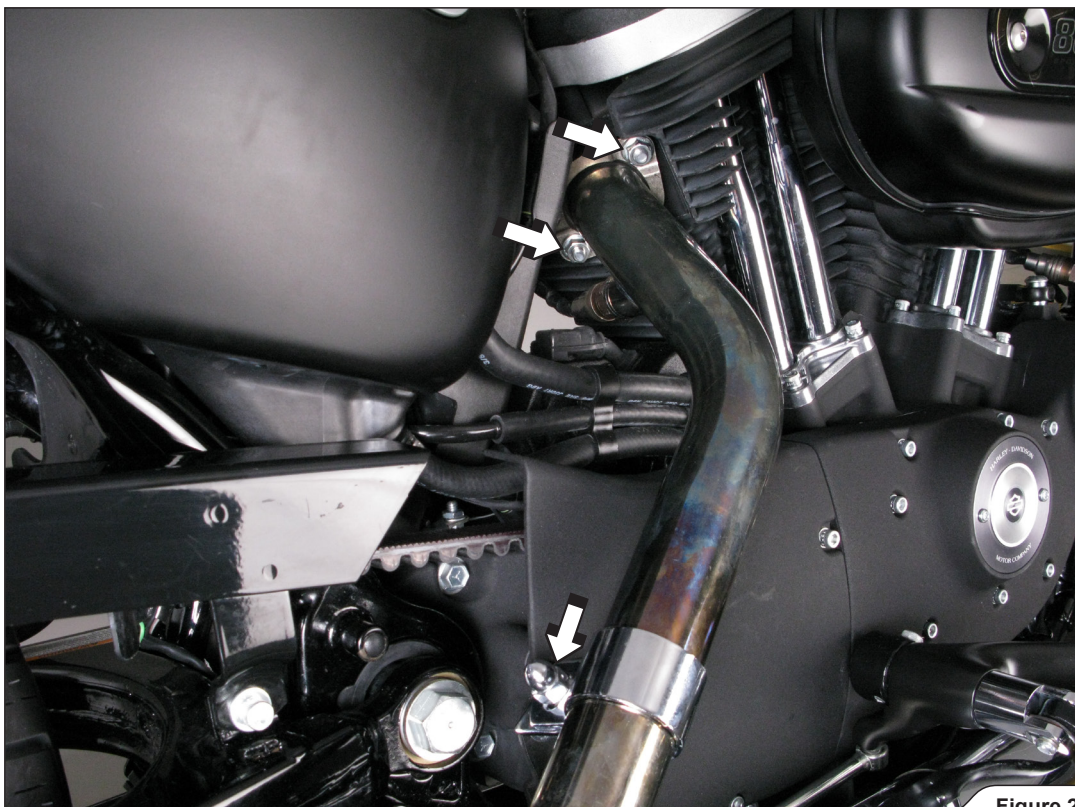

Figure 2
3. Unscrew the rear header pipe's bracket and untighten headers' flanges on both header pipes (**Figure 2**).